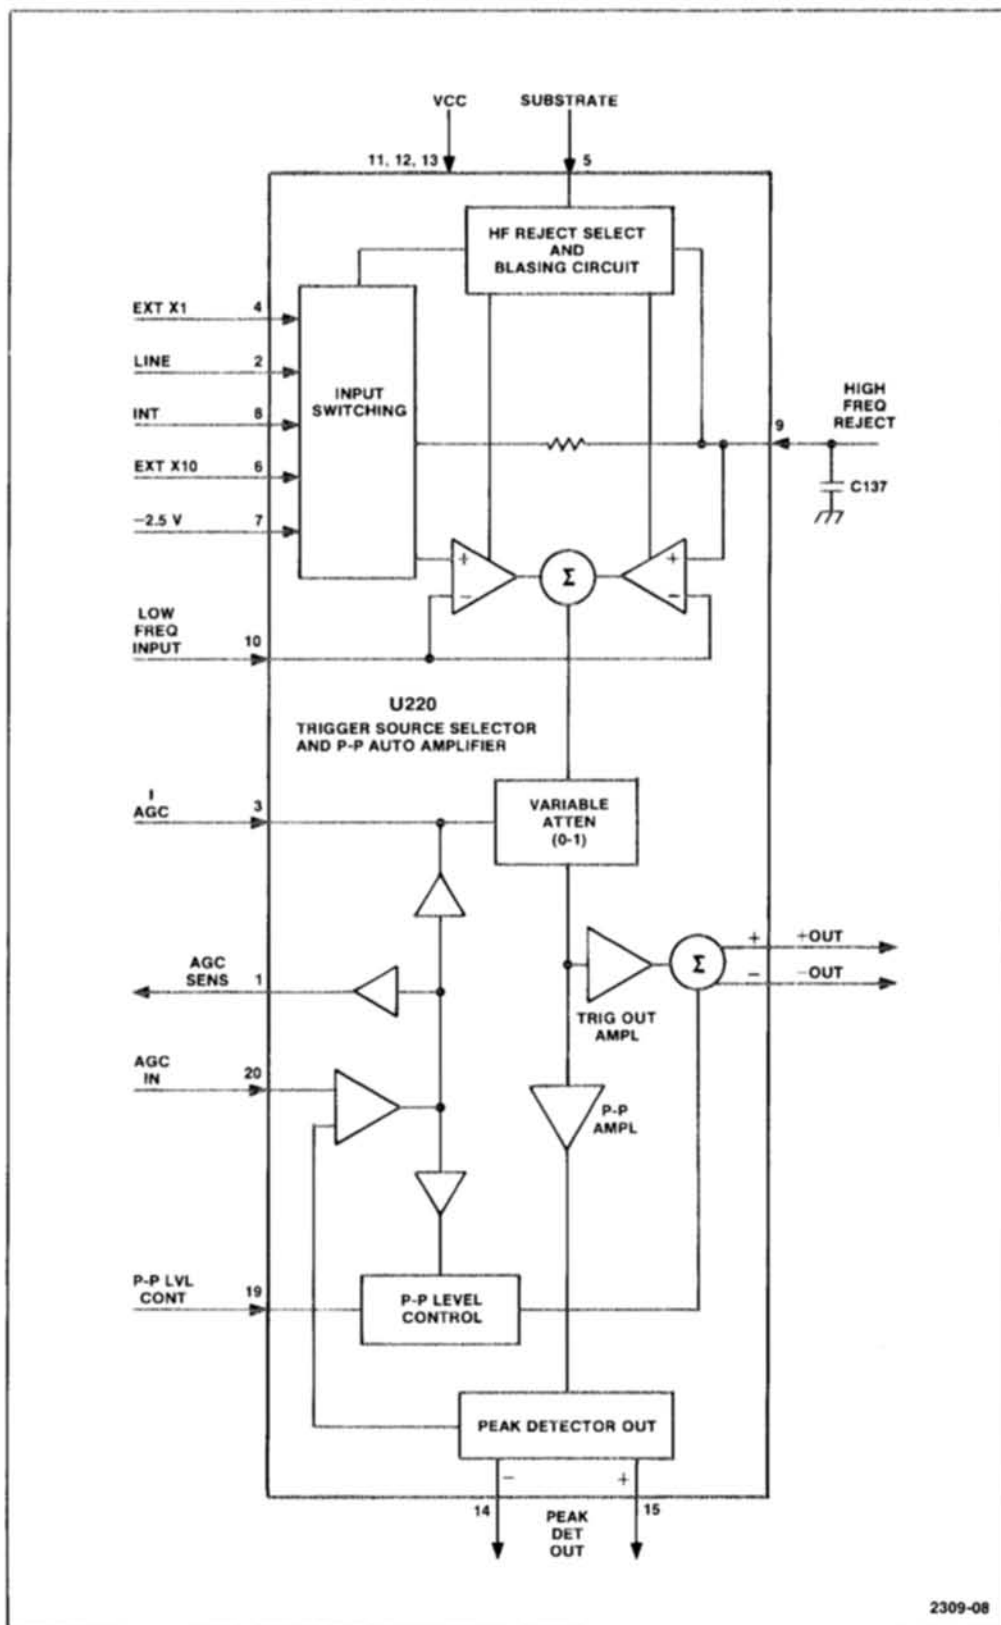

Fig. 5-6. Block diagram of U220.
**Trigger Source Selector and Amplifier.** We have discussed U220 only briefly. Now refer to schematic 1 and the block diagram in Fig 5-6 as we discuss the function of U220 in more detail. The five high-frequency inputs go to the input switching circuit (four of the inputs are used). Unused or disabled inputs are tied to -2.5 volts, reverse biasing the corresponding
When High Frequency Reject (HF REJ) is selected the  $\overline{\text{HFR}}$  control line at the right edge of schematic 1 goes low, reverse-biasing Q128. The HF REJECT Select and Biasing circuit at the top of Fig. 5-6 enables the right amplifier of the pair and the high-frequency signals are fed to its non-inverting terminal. C137 sets the roll-off characteristics of the amplifier to reject high frequencies. The output of the amplifier goes through the summing junction to the variable attenuator. In all modes except PP AUTO (Peak-to-Peak Auto), this attenuator is set for X1 attenuation (We'll discuss PP Auto Mode later).